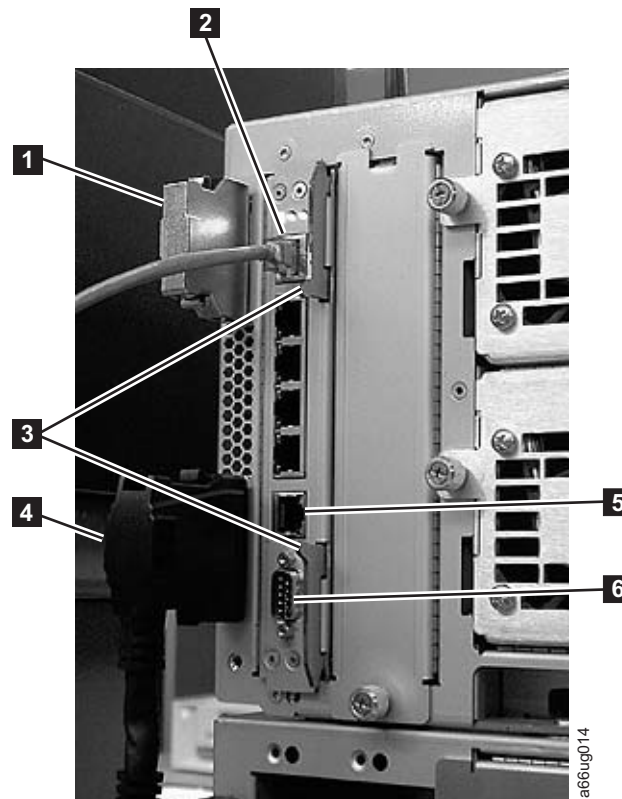

Figure 11-7. Library Control Blade
2. On the LCB (Figure 11-7), disconnect the Ethernet cable (**2** in Figure 11-7) by pinching the tab to disengage the cable, and then pull the connector out of the LCB.
Note: Six slots reside below the Ethernet cable. The four topmost slots are reserved for future use. The two bottommost slots are designated as Ethernet (**5** in Figure 11-7) and serial (**6** in Figure 11-7) ports, and are reserved for use by IBM Service Personnel.
3. Grasp the pair of latches (**3** in Figure 11-7 on page 11-11) near the top and bottom of the LCB. Simultaneously push the latches to the left, and then pull them out and away from the LCB.